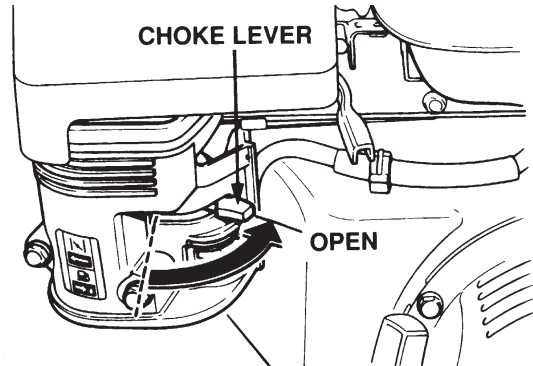

Figure 26. Choke Lever (Open Position)
7. If operating the Cutter 3 CE in **cold weather conditions**, skip this step and proceed to step 8. Place the **Choke Lever** (Figure 26) in the **OPEN** position. Skip to step 9.